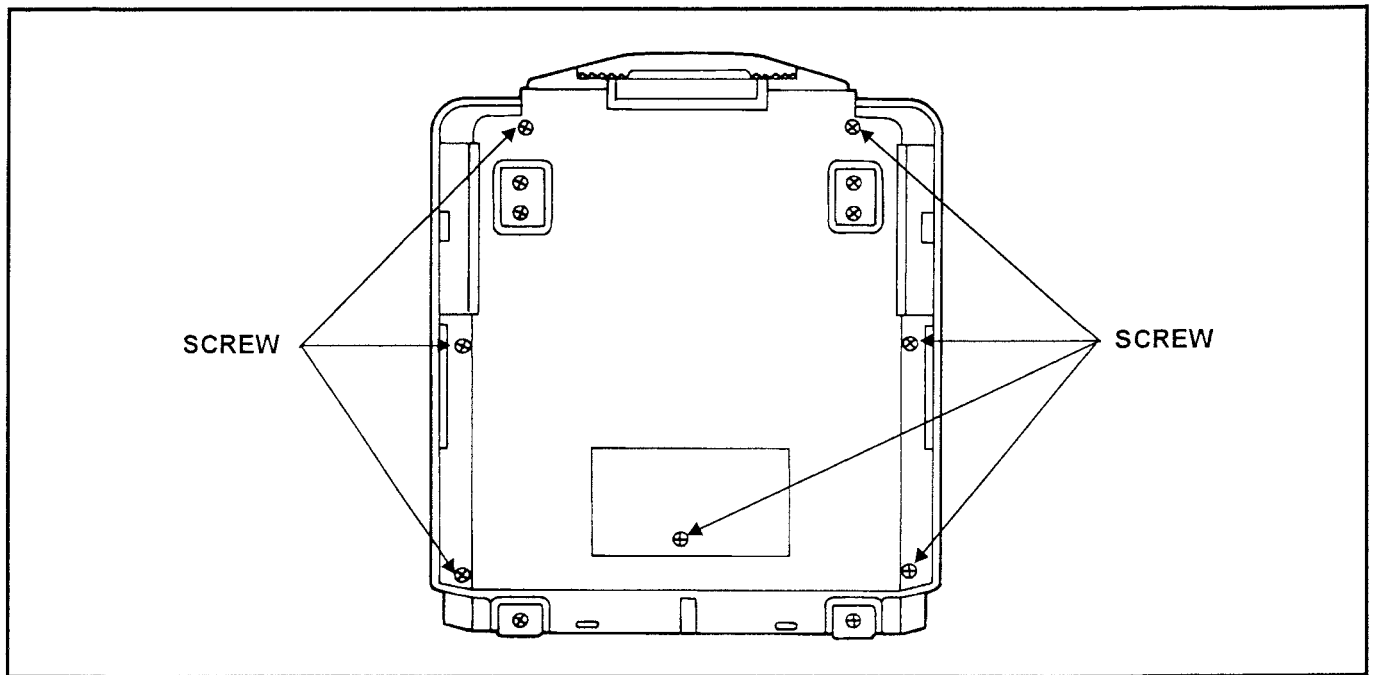

Figure 3
1. Unscrew the 7 screws and remove the Bottom Case Unit as shown in Figure 3.